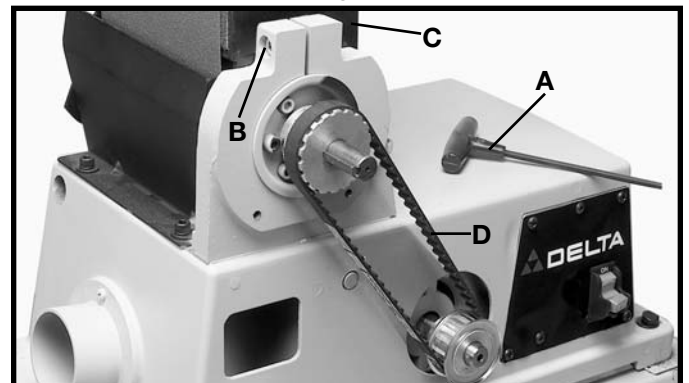

Fig. 6
1. With hex wrench (A) Fig. 6 supplied, loosen screw (B) and move sanding arm (C) to the vertical position; tighten screw (B) as shown. Assemble drive belt (D) to pulleys.